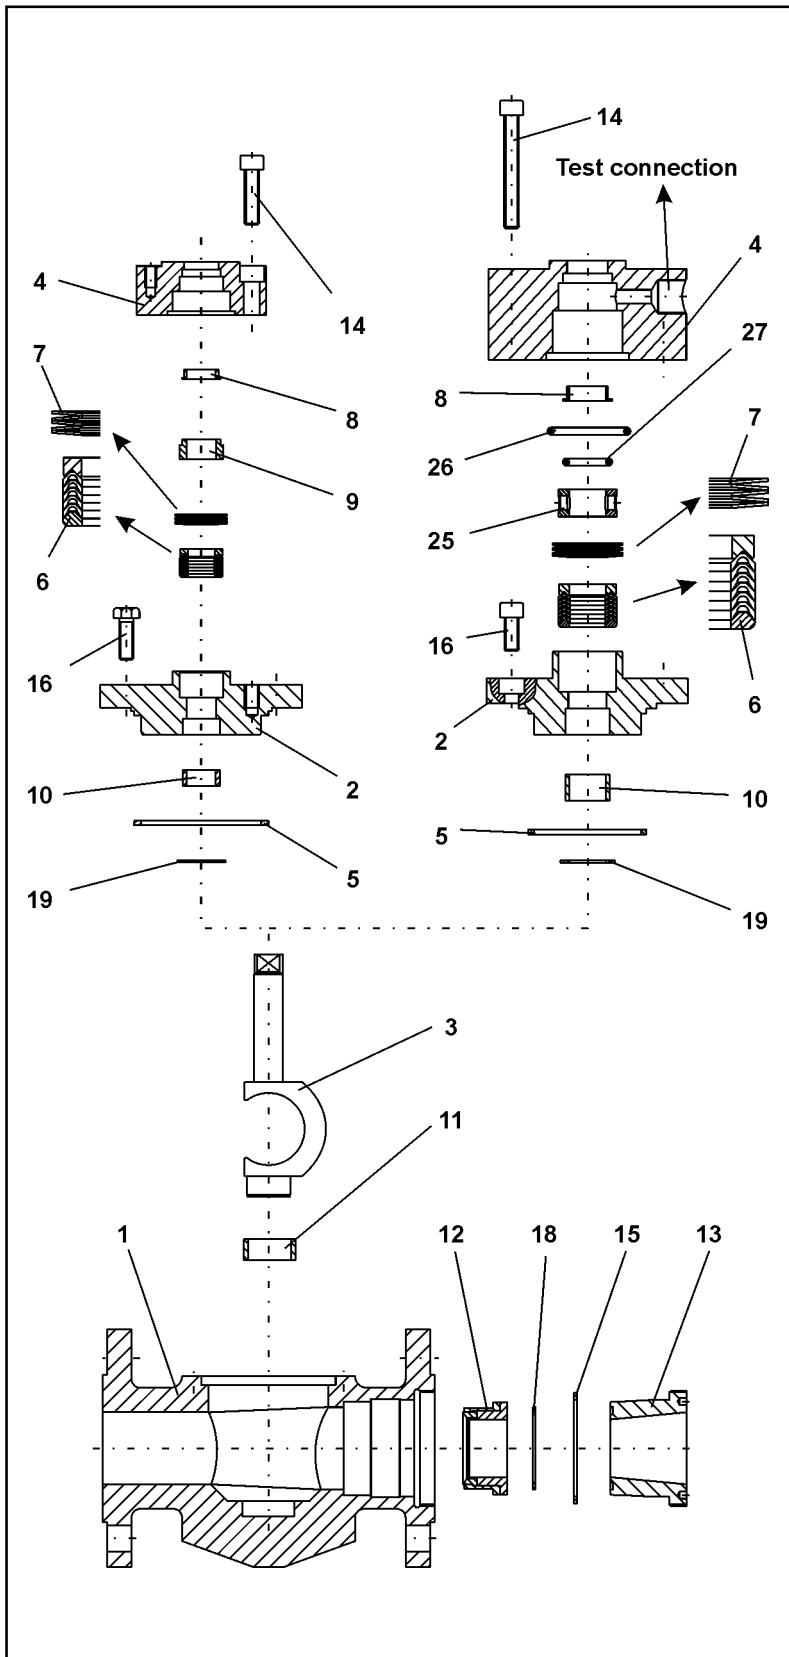

Fig. 3 - Exploded view of Series 23b Rotary Plug Valve
Refer to the Fig. 3 for arrangement of the packing rings.
Place the set of spring washers (7) on the V-ring packing. Refer to Fig. 3 also for the arrangement of the set of spring washers.